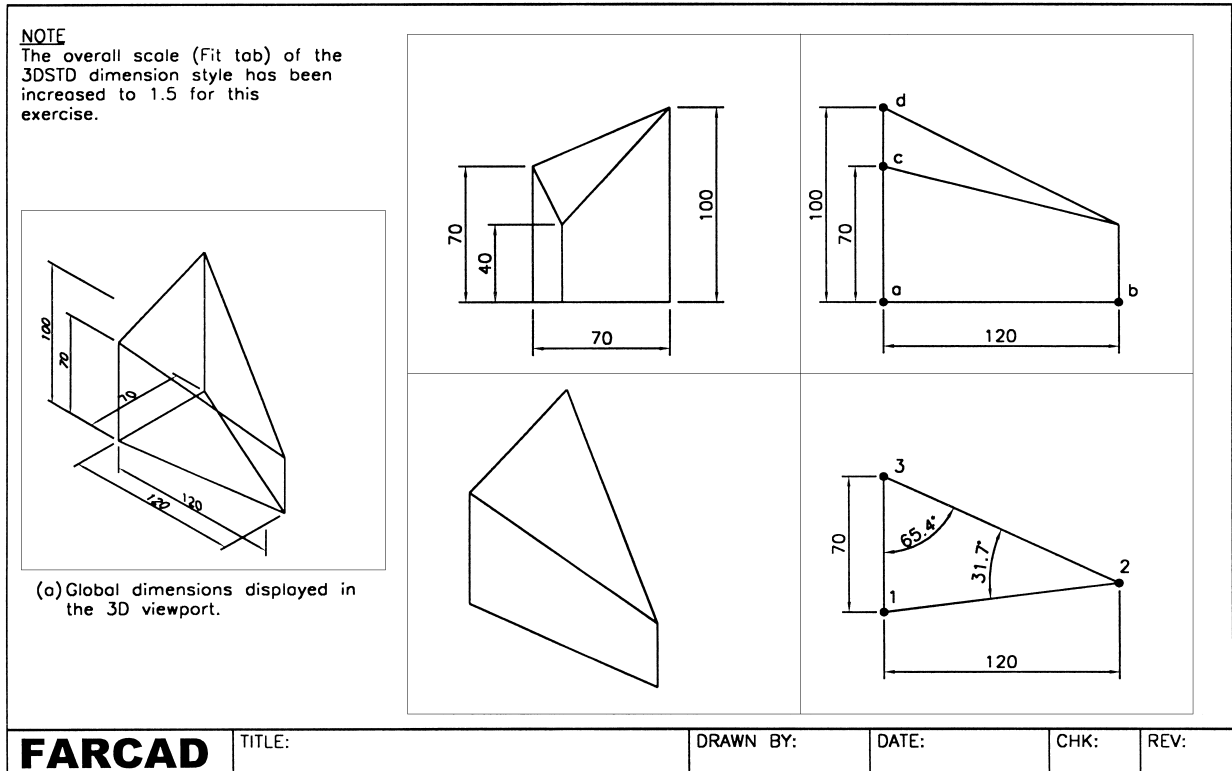

Figure 25.1 Viewport specific layer exercise using MODR2002\CHEESE
- 1 Open the 3D faced model MODR2002\CHEESE from chapter 14 and refer to Fig. 25.1
- 6 The five dimensions will be displayed in all four viewports due to the GLOBAL nature of layer DIM. Fig. 25.1(a) displays the five dimensions as displayed in the 3D viewport.
- d) add the four dimensions as Fig. 25.1